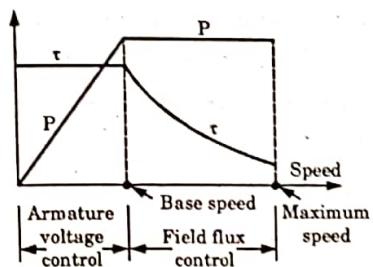

Fig. 3.9.2. Torque and power characteristics is combined armature voltage and field control.
12. Hence with armature voltage control method constant torque and variable power drive is obtained from speed below the base speed. This is shown in Fig. 3.9.2.